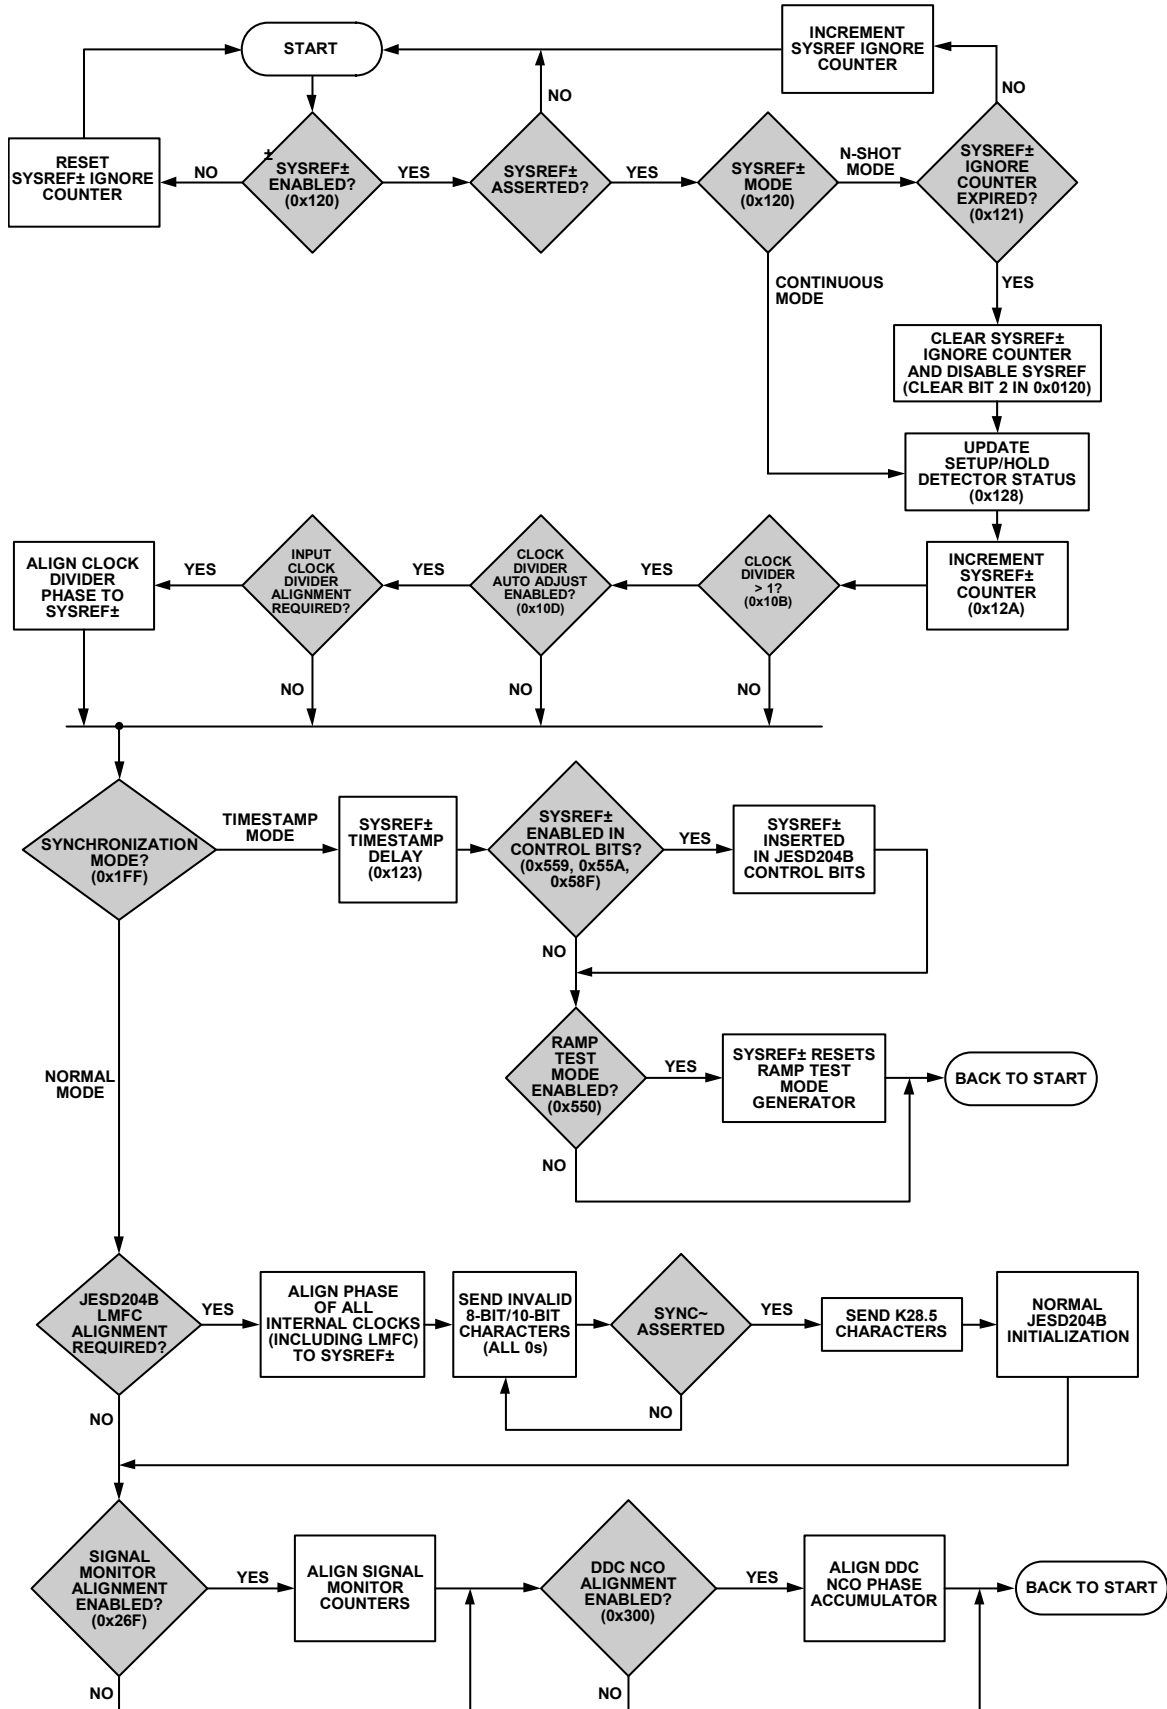

Figure 107. SYSREF± Capture Scenarios and Multichip Synchronization
The flowchart shown in Figure 107 describes the internal mechanism for multichip synchronization in the AD9234. There are two methods by which multichip synchronization can take place, as determined by the chip synchronization mode bit (Register 0x1FF, Bit 0). Both methods involve different  $SYSREF_{\pm}$  signal applications.
The default state of the chip synchronization mode bit is 0, which configures the AD9234 for normal chip synchronization. The JESD204B standard specifies the use of  $SYSREF_{\pm}$  to provide deterministic latency within a single link. This same concept, when applied to a system with multiple converters and logic devices, can also provide multichip synchronization. In Figure 107, this is referred to as normal mode. Following the process outlined in Figure 107 ensures the AD9234 is configured appropriately. Consult the respective ASIC or FPGA user intellectual property (IP) guide to ensure the JESD204B receivers are configured appropriately.